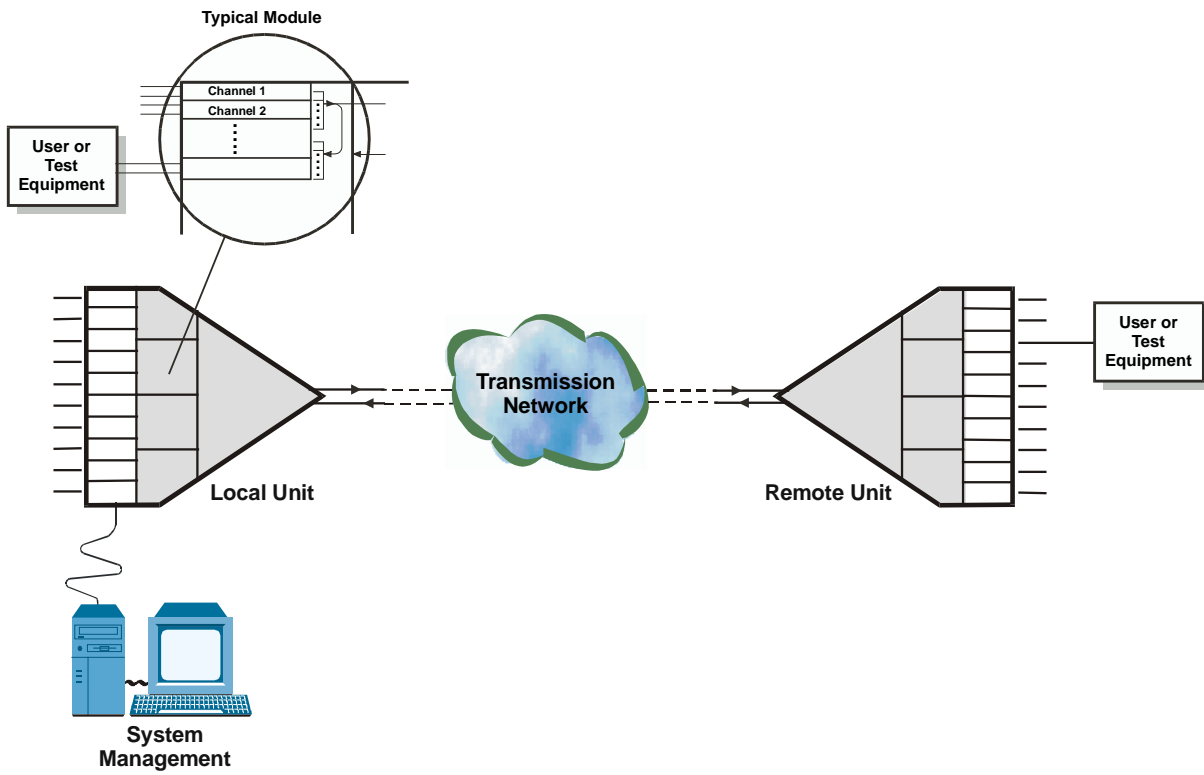

Figure 6-10. I/O Module, Local Loopback on Module Output
- A local loopback on the multiplexed output signal of the module (Figure 6-10) allows the separation of faults in the module itself from faults in the other Megaplex hardware: if the test at the module level fails, the problem is certainly in the module itself.